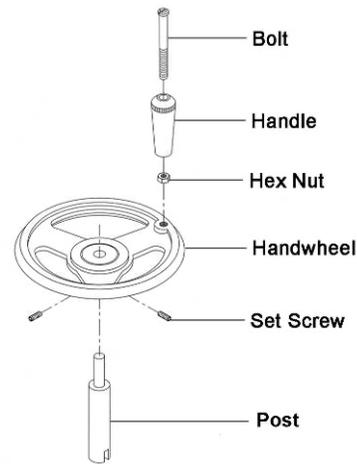

Figure 6
1. Slide the post up into the handwheel and secure with the set screws, as shown in Fig 6.
2. Use a flat head screwdriver to screw the bolt of the handle as far as it will go into the threaded hole of the handwheel, then tighten the hex nut down against the handwheel (Fig. 6).